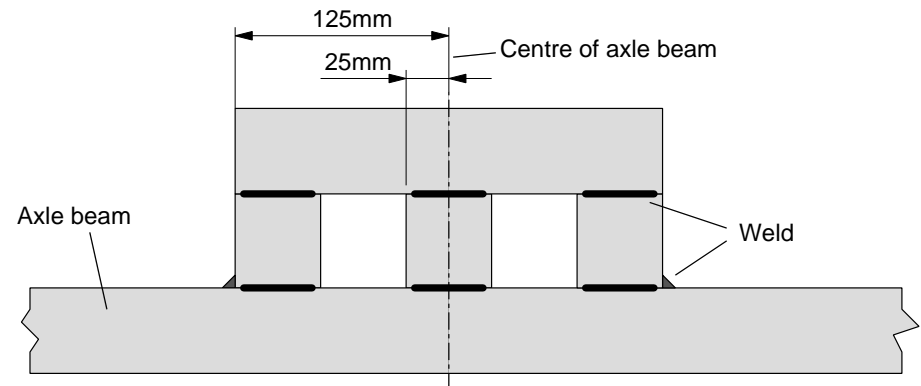

Figure 10: position of bearing support blocks - nb the cart is upside down here.
- 8) Next cut six 53 mm pieces of square tubing for the bearing boxes. Mark the centre of the axle support beam of the cart and put marks on the beam 25 mm and 125 mm either side of this. You need to weld the 53 mm pieces on to the axle beams as shown in Figure 10. Weld a 252 mm piece of
square tubing across the ends of the 53 mm pieces as shown in Figure 10.